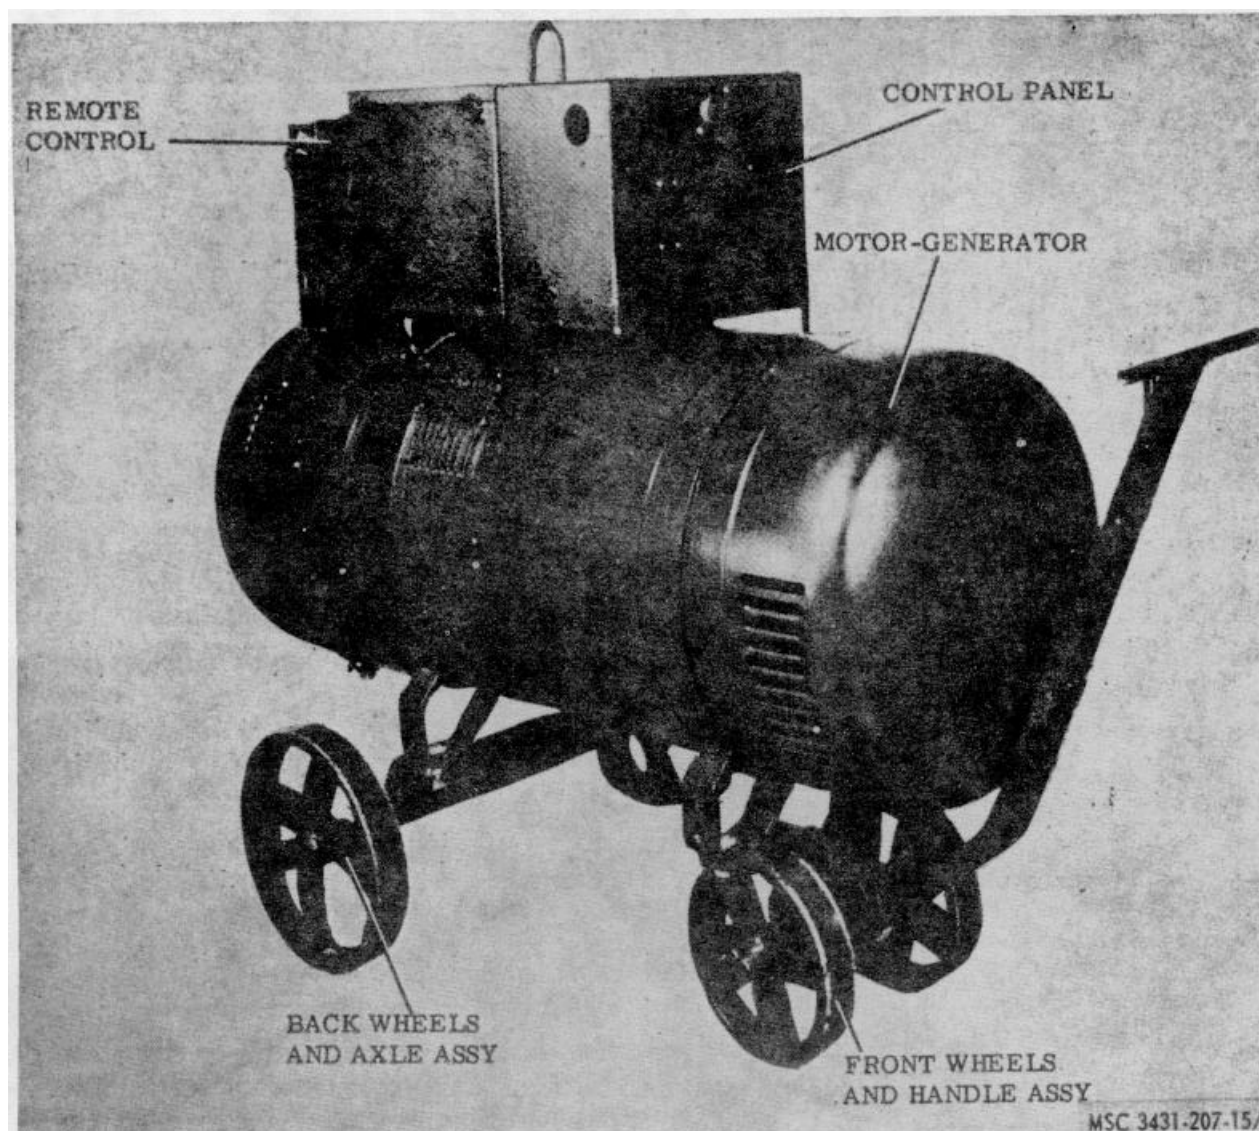

Figure 1. Welding machine, right front three-quarter view.
a. *General.* The welding machine (fig. 1 and 2) Model LA-300, is a self-contained, trailer mounted, semi-enclosed unit and is, excluding the controls, completely winterized. The welding machine is equipped with the necessary controls, instruments, and accessories for operation. All accessories and controls which are mounted on top of the welding machine are readily accessible. The unit is equipped with one towing arm attached to one end and a lifting eye located on top of the machine.